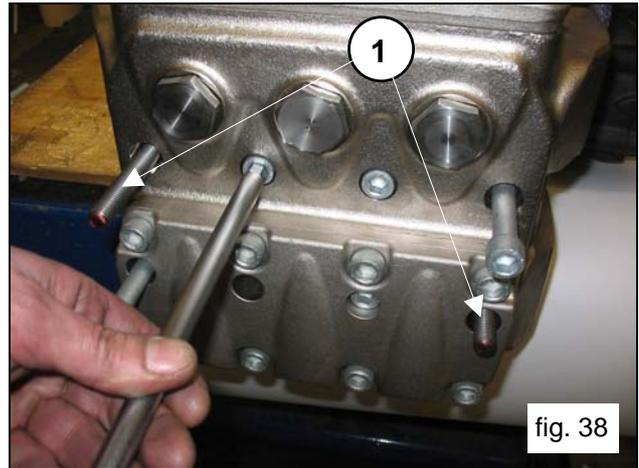

fig. 38
Unfasten the two external head screws M12x160, replacing them with two threaded bars M12 (pos. ①, fig. 38) to avoid damaging the pistons; then proceed with removing the rest of the screws.